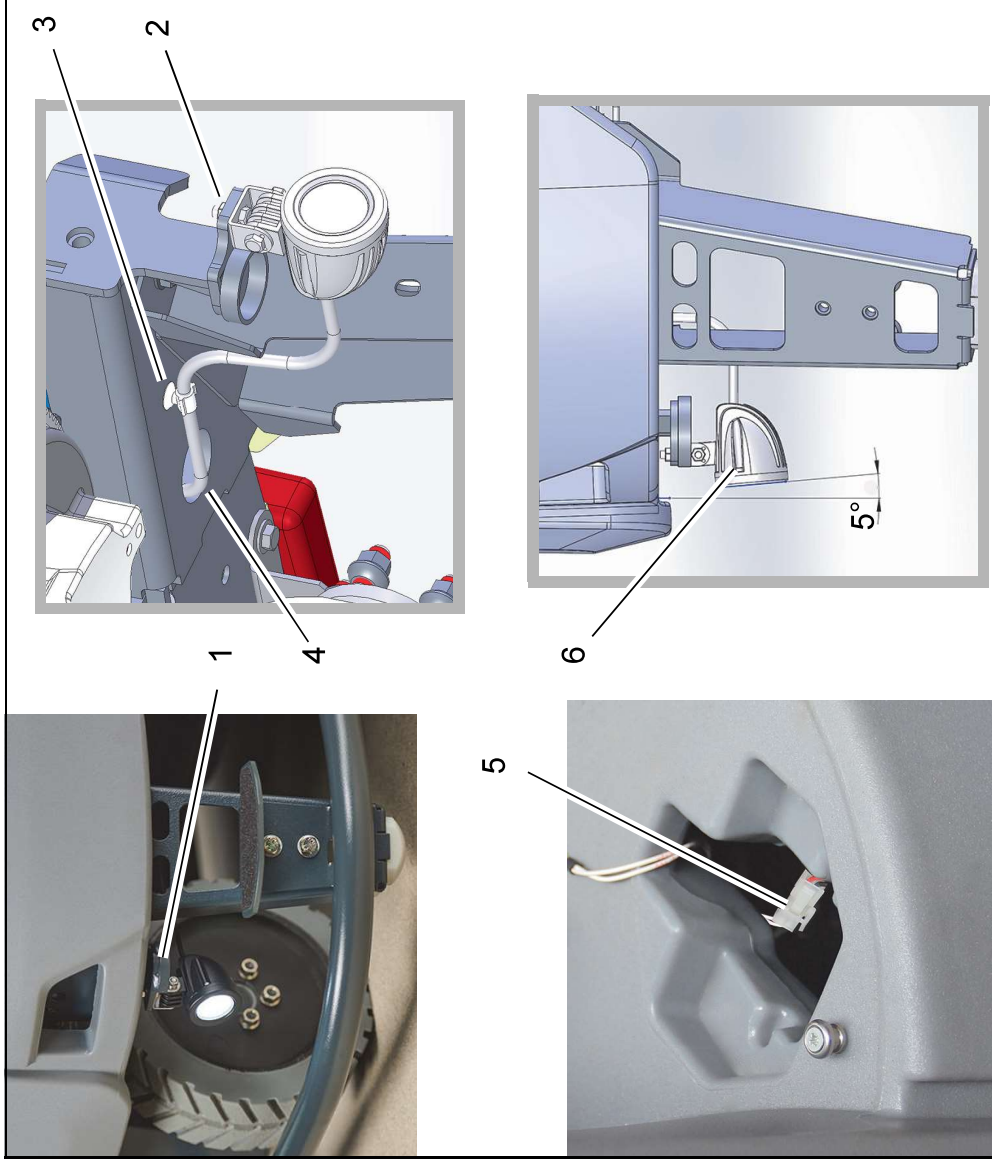

Fig. 2
The working light is installed on the left next to the front wheel (Fig. 2/1).
1. Fit working light to holder of chassis (Fig. 2/2).
2. Insert corrugated hose holder into existing hole (Fig. 2/3).
4. Lead cable through floor opening into the interior (Fig. 2/4).
5. Connect plug of working light to 2-pin connector E01 of cable loom W 3 (Fig. 2/5).
Set tilt angle to approx 5° (Fig. 2/6).